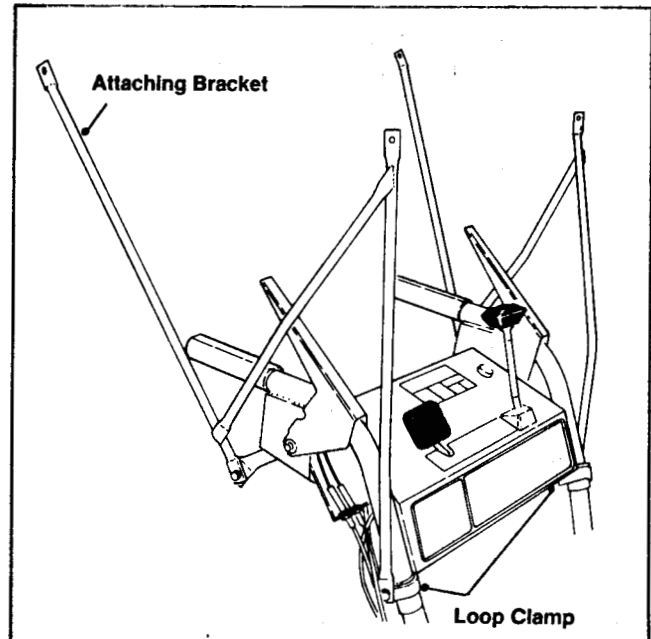

Figure 136
5. Position and secure the right attaching bracket to the attaching bracket base using a 1/4-20 X 3/4" capscrew and locknut. See Figure 136.